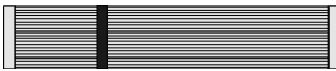

Figure 1-2 Standard Floppy cable
- One 34-pin floppy disk drive ribbon cable (Figure 1-2)